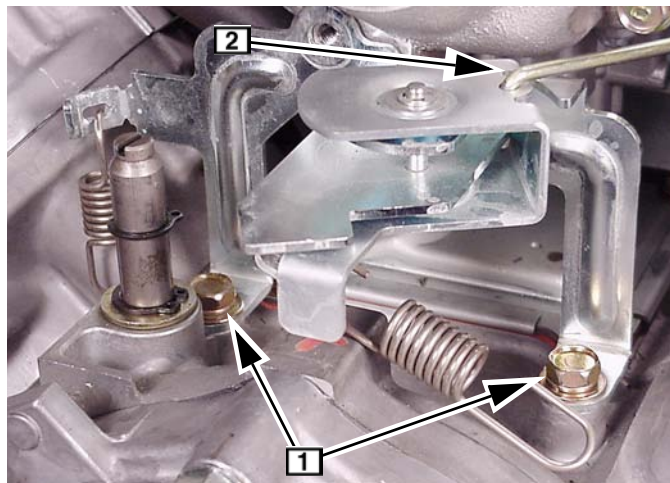

Fig. 45
- Remove governor control bracket **1** and disconnect governor link **2**, Fig. 45.